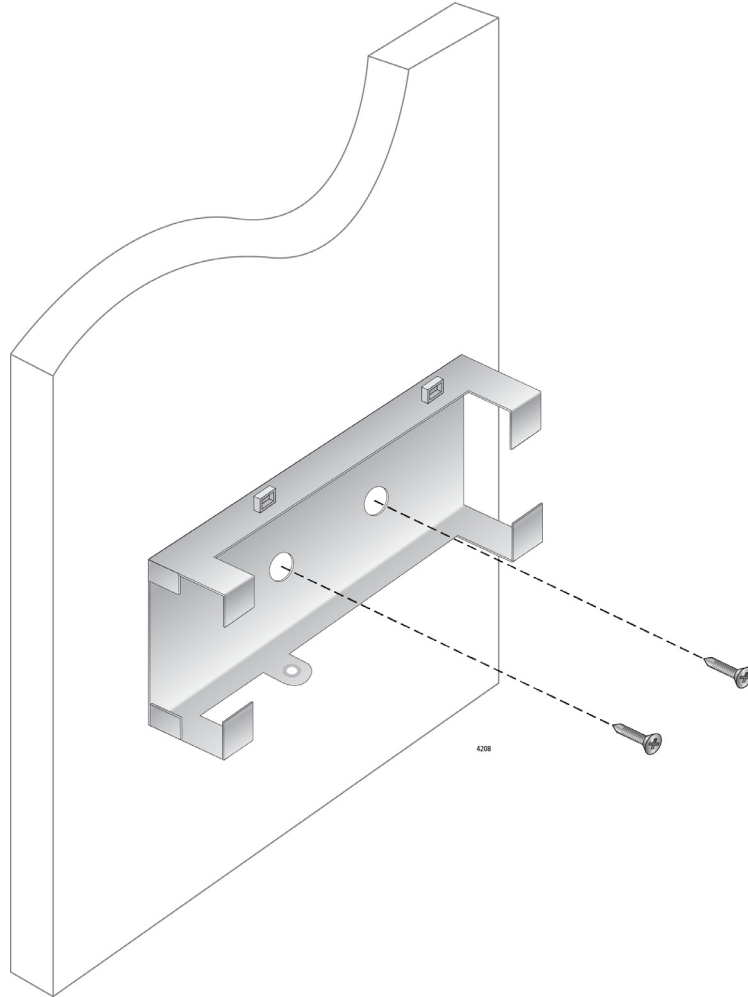

Figure 21. Securing the Mounting Bracket to the Wall
7. Secure the bracket to the wall using two wall mounting screws as shown in Figure 21.
8. Secure the bracket to the wall using two wall mounting screws. See Figure 21 on page 42.